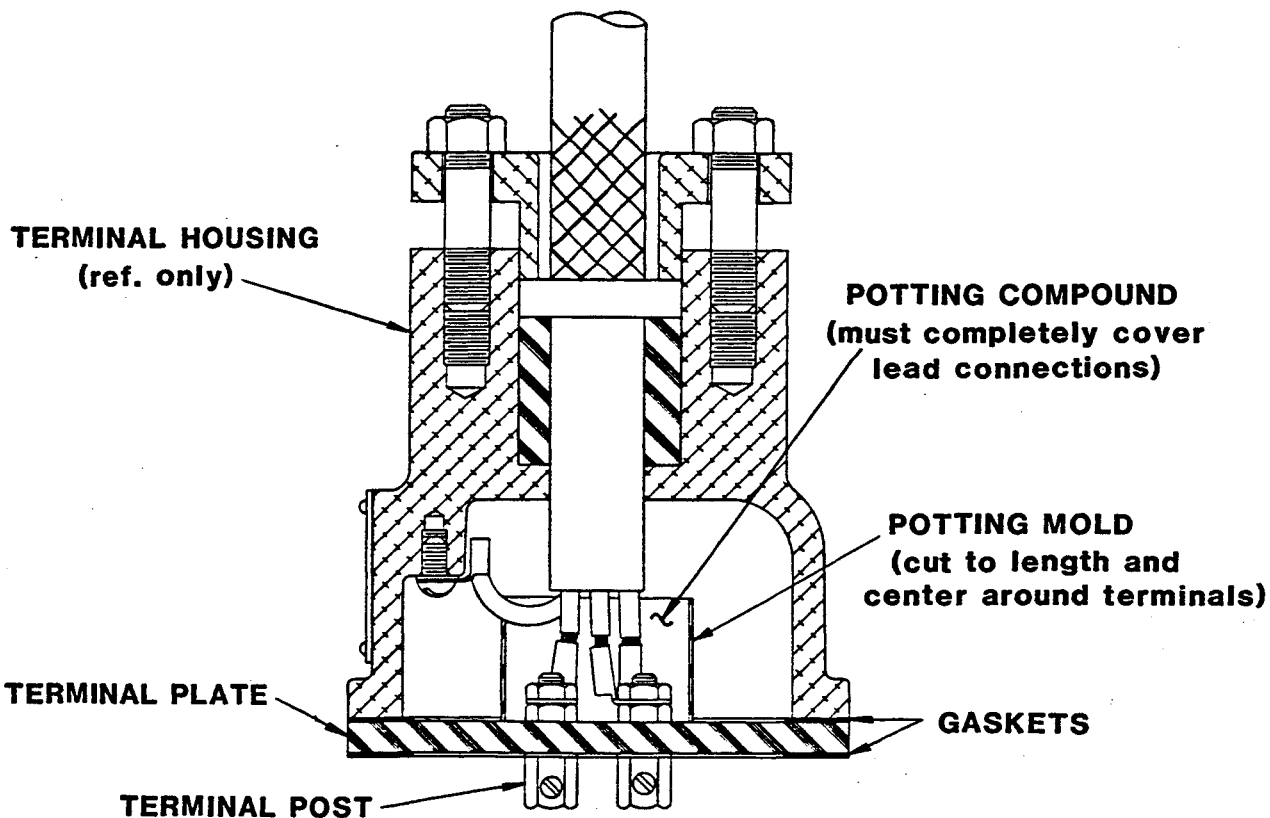

Figure 3. Potting Power Cable Leads In Terminal Housing
When shipped from the factory, the cable leads and terminals were encapsulated in heat-shrink tubing (48) and bonded to the terminal plate (52) with hot-melt adhesive to provide a water-tight seal. These materials are included in an optional repair kit listed in the parts list; however, since a glue gun with the required temperature range is not generally available in the field, it is recommended that a repotting kit available from Gorman-Rupp (see optional equipment in parts list) or a commercially available kit (Products Research Corp., part no. PR-1201-Q Class 1 potting compound, or equivalent) be used to resealed the connections. See Figure 3, and the following instructions.
Trim the potting mold so it is just long enough to cover the terminal post studs (see Figure 3). Slide the potting mold up over the three standard leads of the power cable (42).